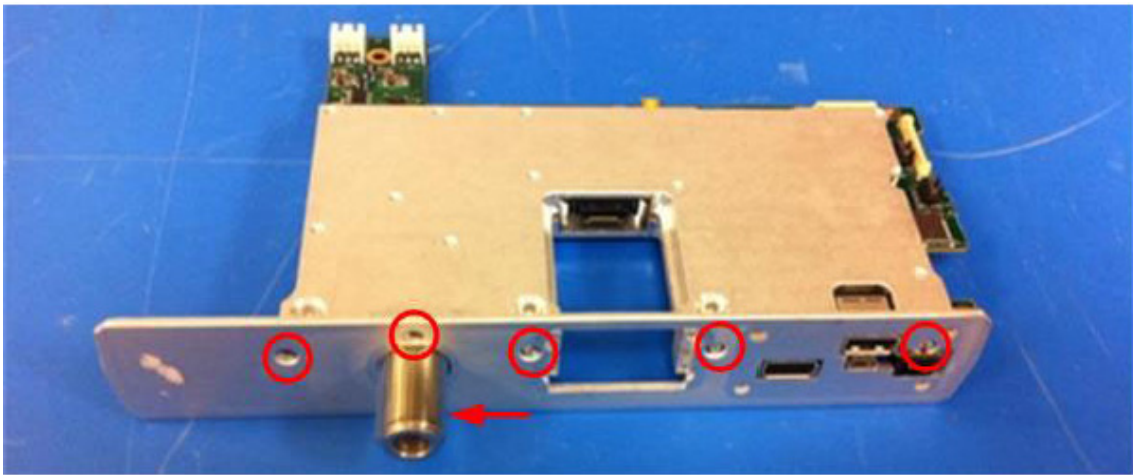

Figure 4-19. Top Plate Removal
4. Remove the top plate by removing the 6 screws shown in Figure 4-19. Note one screw cannot be seen, the arrow is pointing to its location.